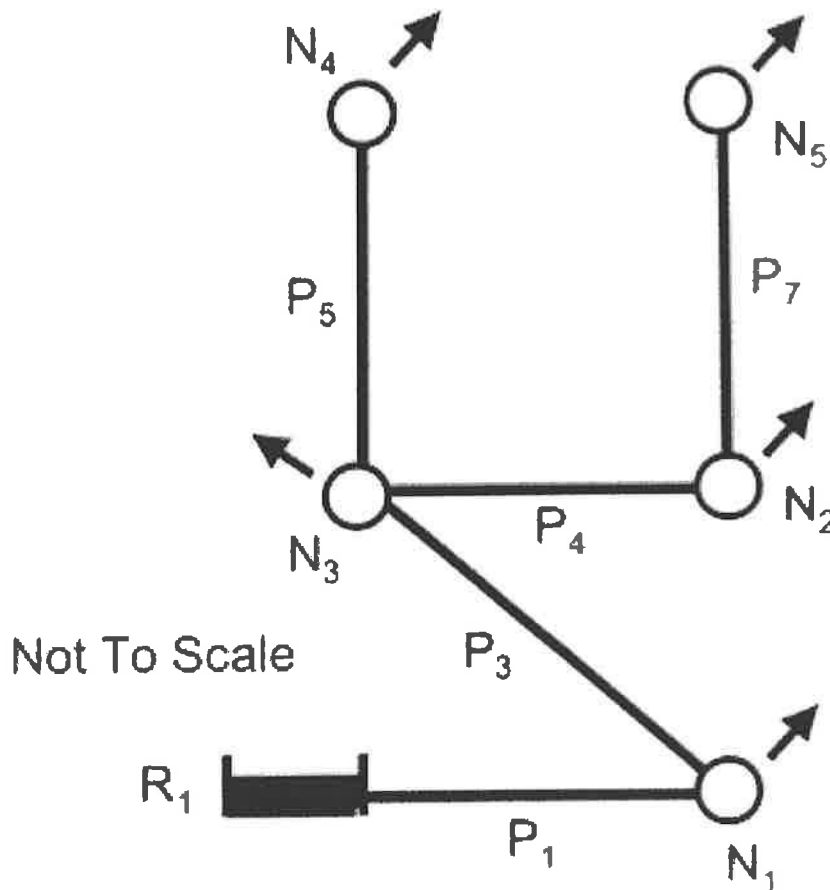

Figure 1. Water supply system.
1. A branched pipe network conveys water from reservoir R1 with constant water level of 110 m to 5 nodes, all at elevation of 40 m (Figure 1). All pipes are made of ductile iron and have a Hazen-Williams 'C' factor of 110, an internal diameter of 405 mm, and a length of 340 m. Nodes 1 through 5 have a maximum day demand of 1.0 L/s. Node 5 also carries a fire flow of 25 L/s.